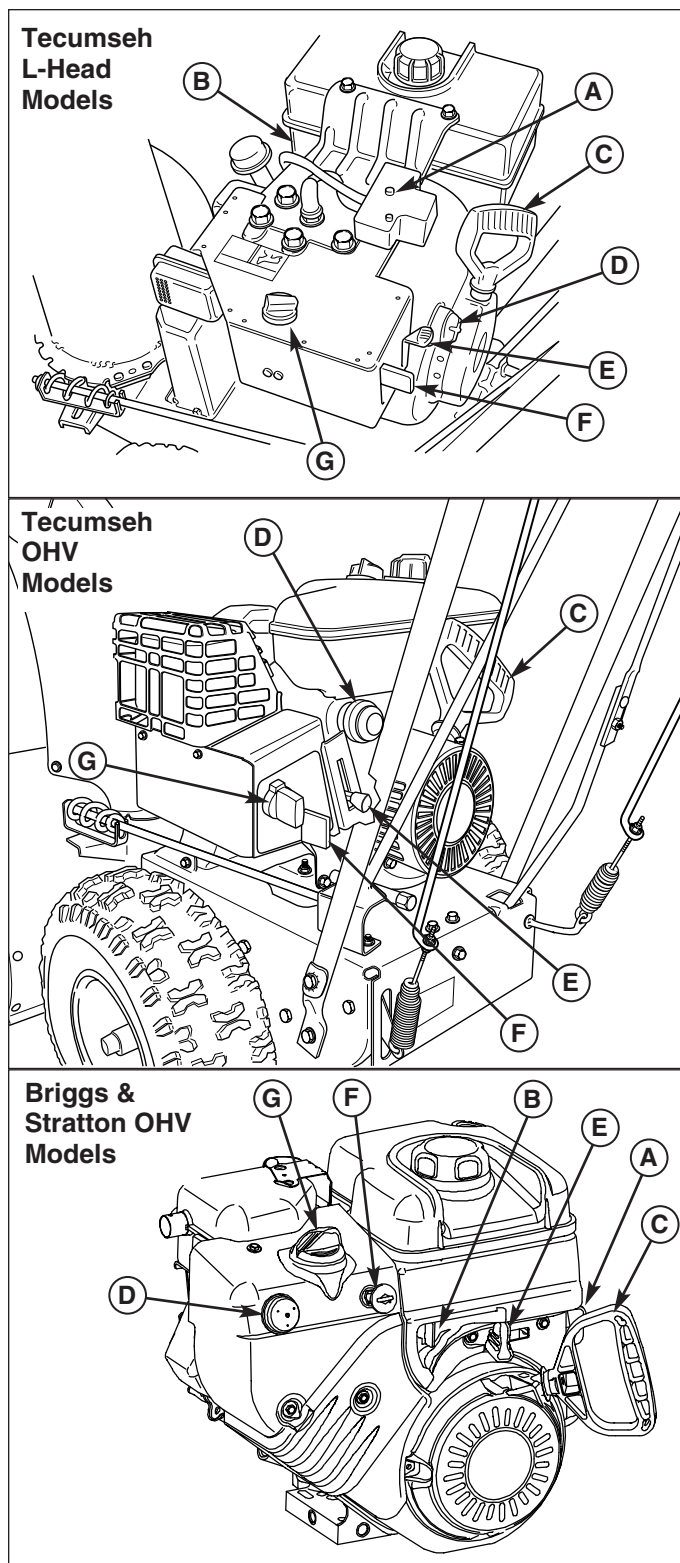

Figure 6. Engine Controls
1. Turn the fuel valve (B, Figure 6) to the ON position.
2. Insert the Engine Key (F) into the Engine Key slot and push fully in to the RUN position.
3. Move the Throttle Lever (E) fully up to the FAST position.
4. Fully close the Choke (G) if engine is cold. (Do not choke a warm engine.)
5. Push the Primer Button (D) two times if engine is cold. (Do not prime a warm engine.)
6. Pull Starter Handle (C) rapidly, or push Starter Button if equipped with the electric start. Do not allow the Starter Handle to snap back—let the starter rope rewind slowly—while keeping a firm grip on the Starter Handle.
7. As the engine starts and begins to operate evenly, open the Choke (G) slowly and set the Throttle Lever to SLOW. If the engine falters, turn the Choke Knob clockwise until the engine runs smoothly, and let it run briefly before returning the choke to the OPEN position.